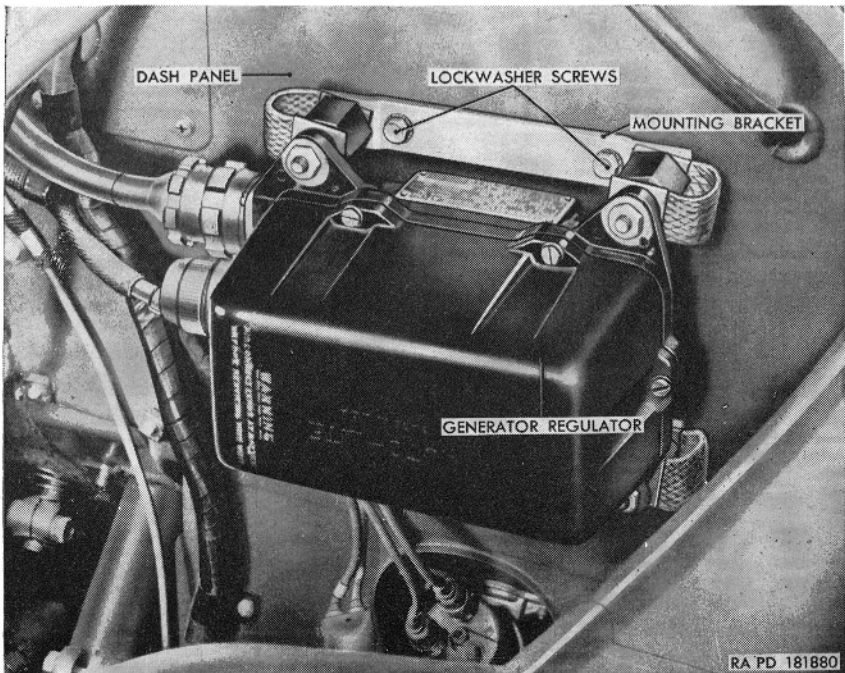

Figure 27.1. (Added) Generator regulator assembly M170—installed.
49.1. Remove Generator Regulator Assembly M170 (fig. 27.1) (Added)
(fig. 27.1)